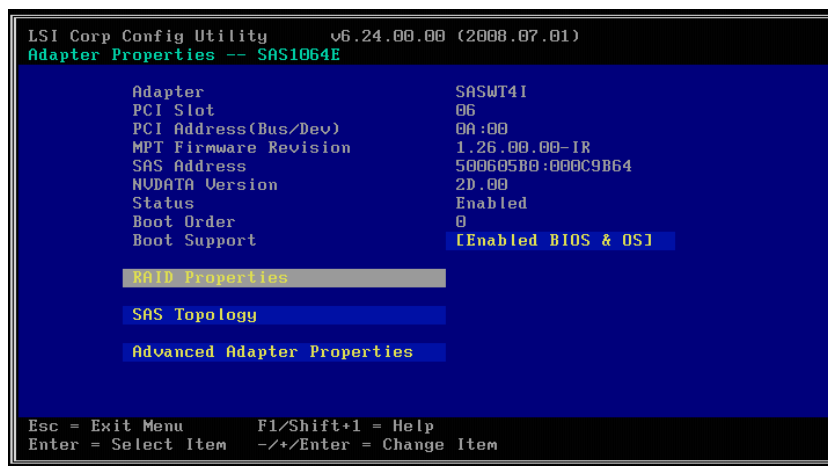

Figure 13. Adapter Properties Screen
2. Press <Enter> to go to the Adapter Properties screen, as shown in Figure 13.
- Press <Enter> to go to the Adapter Properties screen, shown in Figure 13.